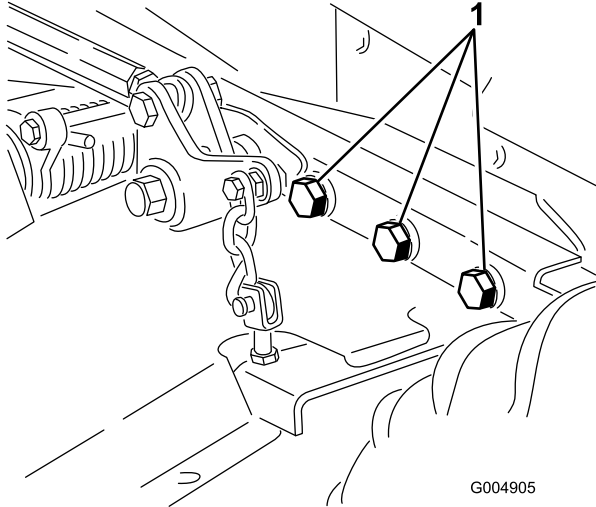

Figure 101
4. Check all fasteners for looseness and tighten them as necessary. Especially torque the 6 bolts securing the mower deck frame to the traction unit (Figure 101) to 359 N-m (265 ft-lb).